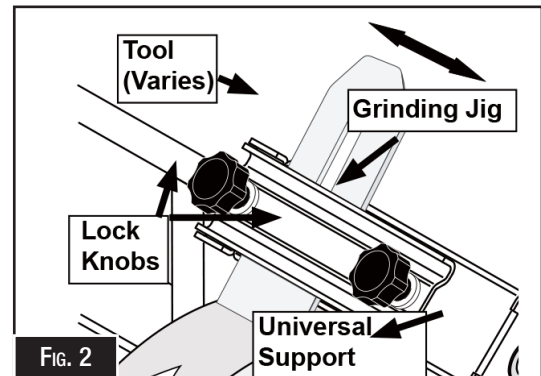

FIG. 2
1. Insert the tool support into the two mounting holes at the top of the grinder as shown. (Fig. 2)